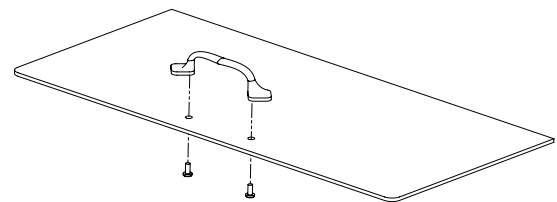

Figure 5: Hopper Door Handle Assembly
1. Using a Phillips screwdriver, attach hopper handle to hopper door using the pre-drilled holes. See figure 5.